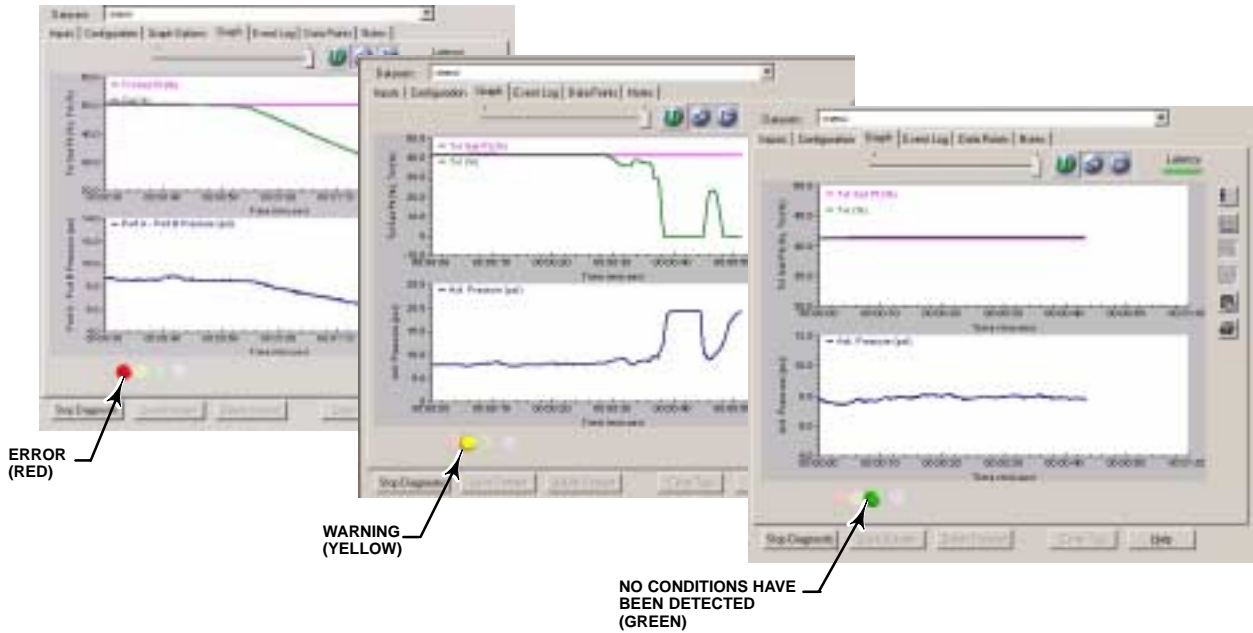

Figure 3. Red/Yellow/Green Condition Indicators, Shown in AMS ValveLink Software
- Red/Yellow/Green Condition Indicator (see figure 3)